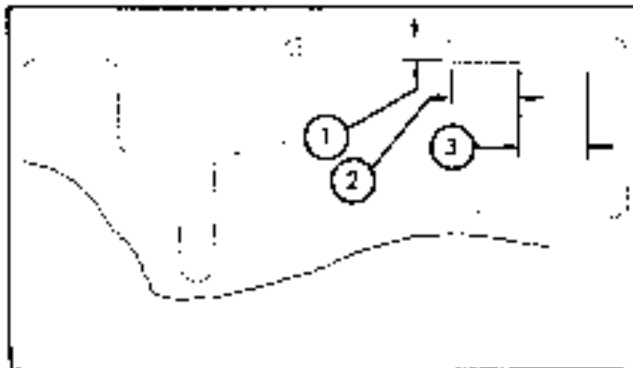

Fig. 150. Floor plate
- f. Remove floor plate. Cut a notch in plate as shown in Fig. 150 to allow clearance for new hydraulic tubes for auxiliary valve.